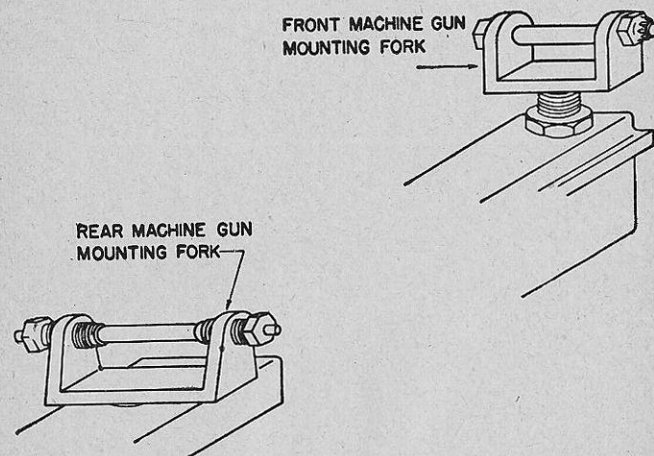

FIGURE 18.—Mounting forks for caliber .50 machine guns.
(1) Lateral adjustment is obtained at the *rear machine-gun mounting fork* (fig. 18).
(2) Vertical adjustment is obtained at the *front machine-gun mounting fork* (fig. 18).